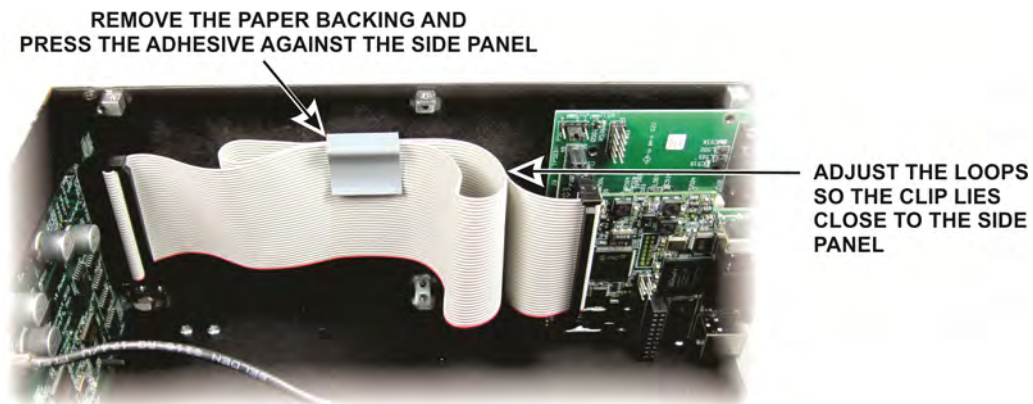

Figure 22. Clip Mounted on Side Panel.
- Slide the ribbon cable through the clip to adjust the folds so the clip lies near the side panel without being pulled away by the cable (see Figure 22).
- Remove the paper backing from the adhesive side of the clip and press it against the side panel as shown in Figure 22.